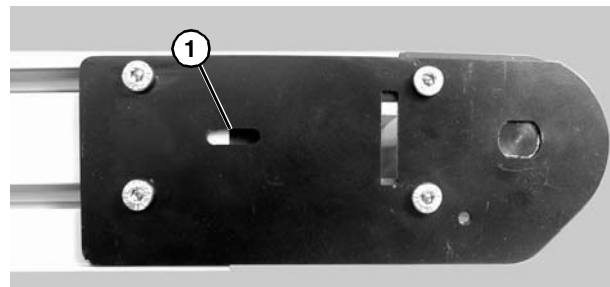

Figure 40
3. Extend head plate assembly until proper tension in the belt is achieved. If proper tensioning can not be obtained before the belt life indicator is all black (**Figure 40, item 1**) the belt must be replaced.